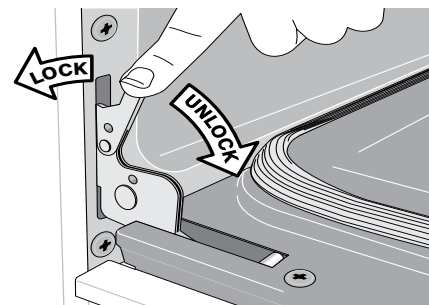

Fig. 2
1. Grasp the sides and lift from the front (See Fig. 2). Lift-up rods will support the top in a raised position. Only lift the top far enough to allow the support rods to snap into place.
2. Pull the door hinge locks on both left and right door hinges down from the oven frame completely towards the oven door (See Fig. 2). A tool such as a small flat-blade screwdriver may be required.
4. Push the door hinge locks up towards and into the oven frame on both left and right oven door hinges (See Fig. 2) to the locked position.